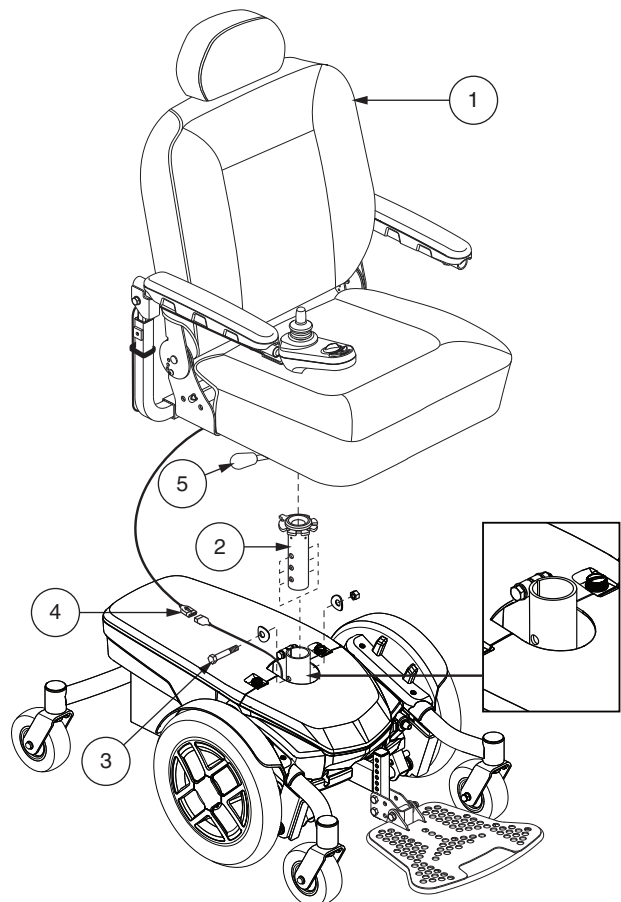

Figure 8. Seat Height Adjustment
3. Disconnect the controller connector from the power base. See figure 8.
4. Disengage the seat release lever. See figure 8.
6. Loosen the hardware at the rear of the seat post. See figure 8.
7. Remove the seat height adjustment bolt, washers, and nut from the seat post. See figure 8.